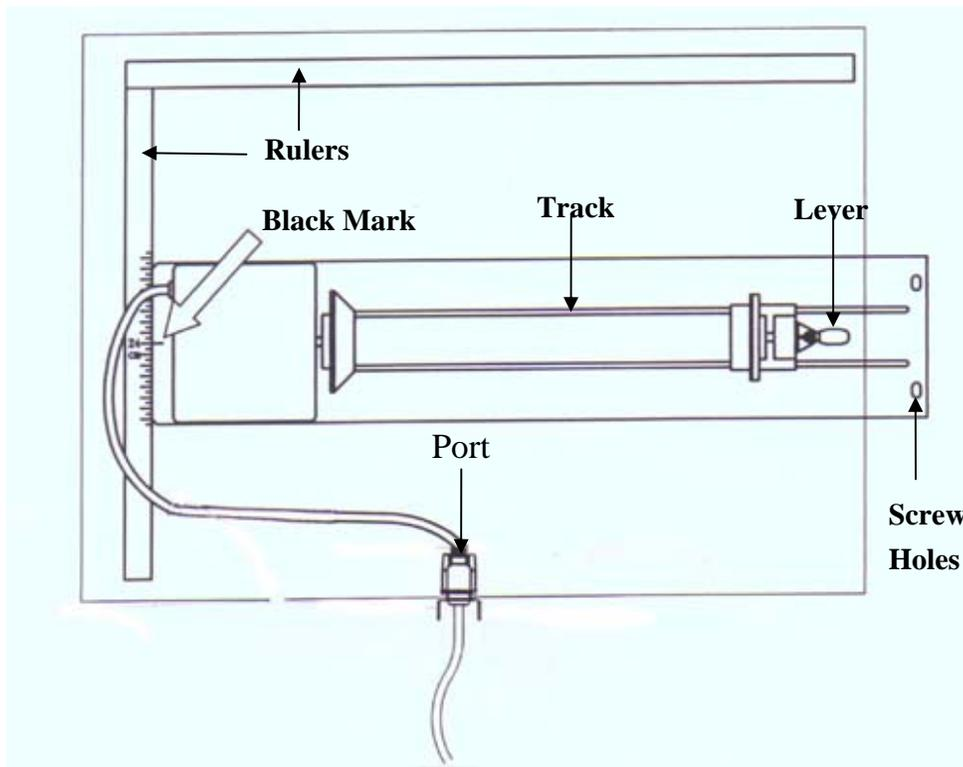

Fig. 5
- 3) Plug the cable of the rotary attachment into the port in the middle front of the engraver (refer to Fig. 5).